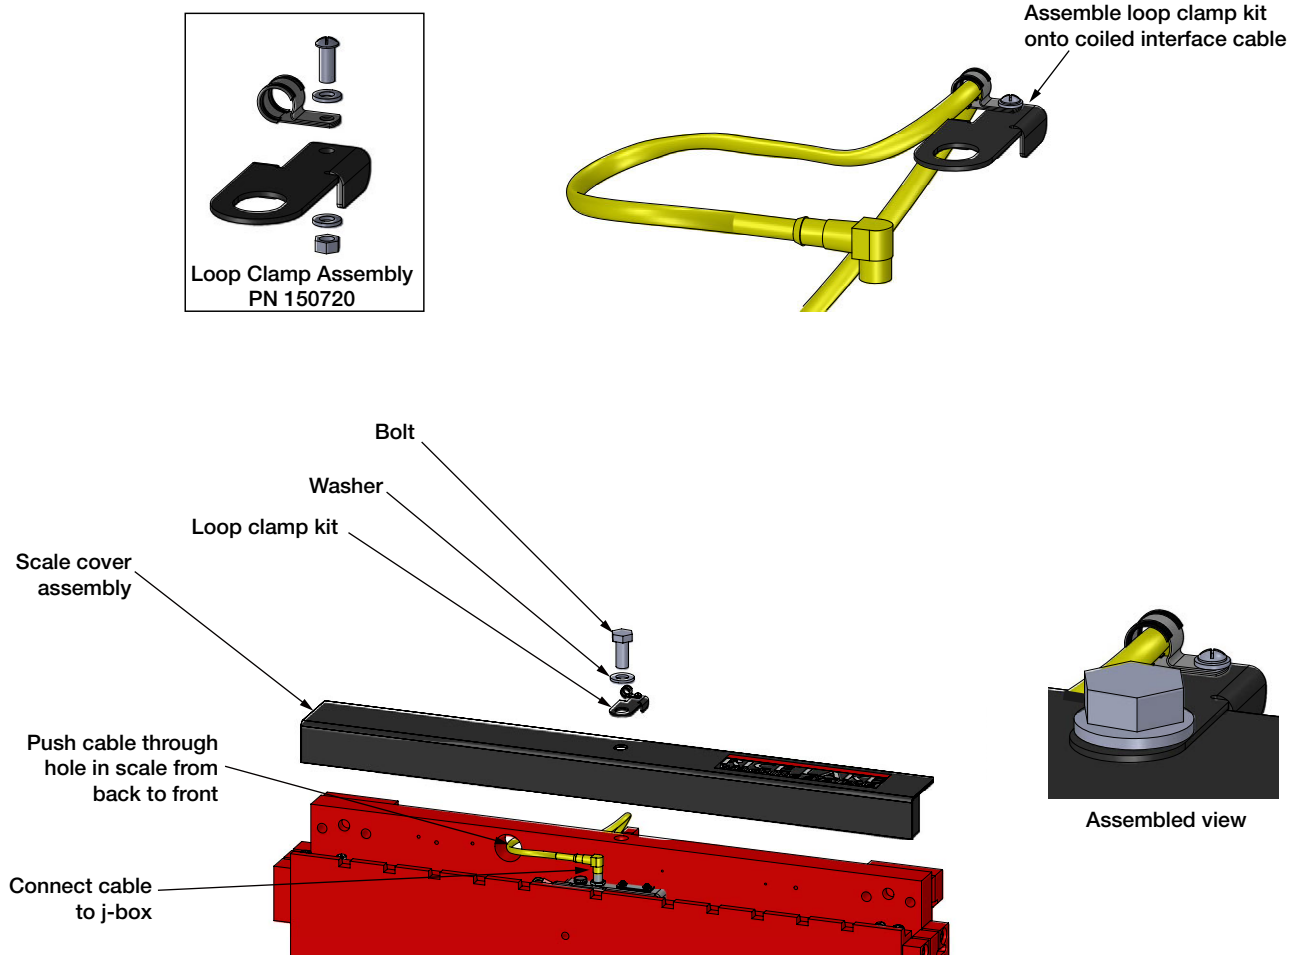

Figure 2-11. Connecting The Coiled Cable
1. Loosen the bolt holding the cover to the scale assembly and remove cover. See Figure 2-11.
3. Push the coiled interface cable through the hole in the scale and connect it to the j-box. See Figure 2-11.